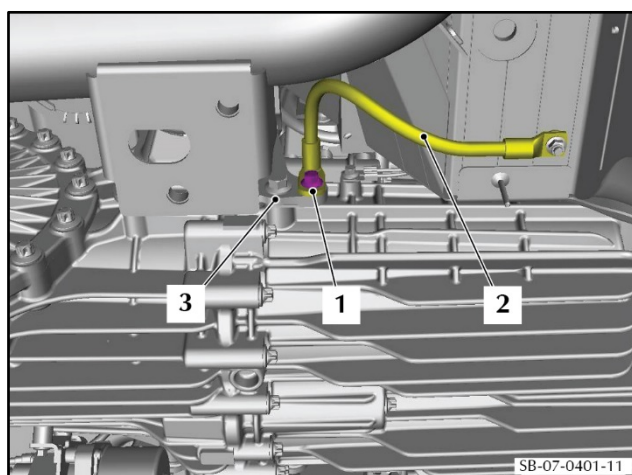

Figure 61
119. Install the bolt (1) that attaches the ground cable (2) to the transmission mount bracket (3) (refer to Figure 61).